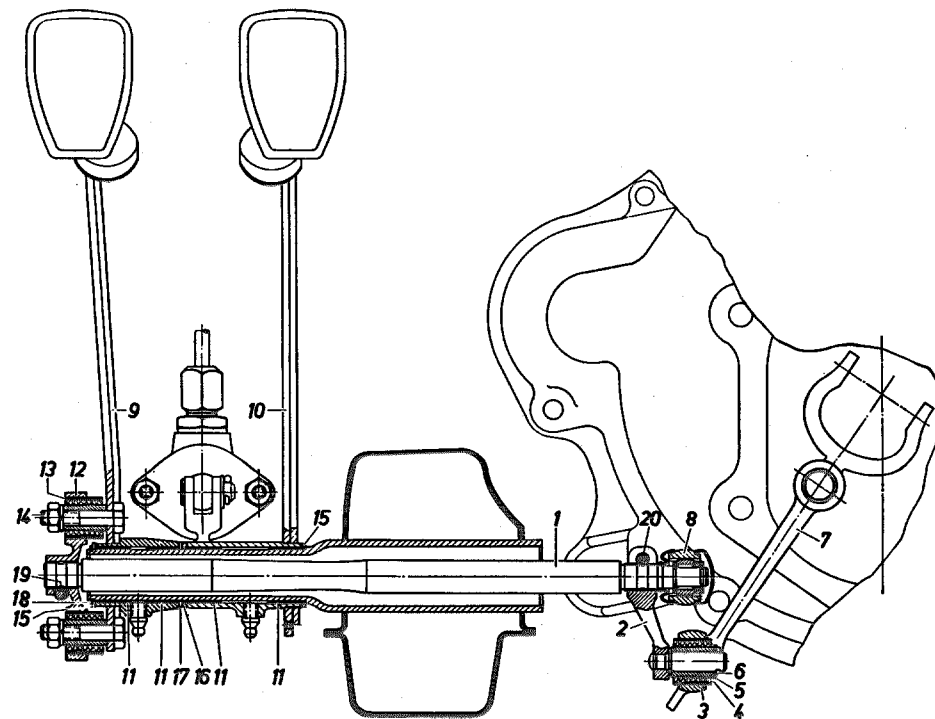

Fig. 29 — 10/1
2. Remove the hexagon screws for the shanks (15) at the clutch and brake pedals and remove both shanks. Remember the washer and the sealing ring (see Fig. 29 — 3/1).
3. Remove the two hexagon nuts (14) at the clutch pedal (9) together with the lock washers (see Fig. 29 — 10/1).
4. Remove the clamp screw (19) at the flange (12) of the pedal shaft (1) and remove the
flange from the clutch pedal shaft (see Fig. 29 — 10/1).
10. Install the brake pedal on the mounting tube; do not forget the rear washer (15) (see Fig. 29 — 10/1).
12. Install the washer (16) and the lock washer (17).
13. Install the clutch pedal on the mounting tube. Install the washer (15) in front and the snap ring (18).